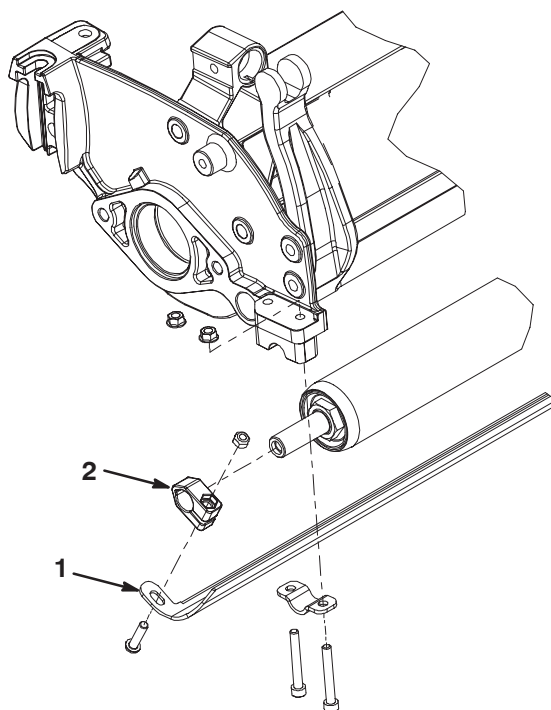

Figure 2
3. Loosely install the roller scraper to each end of the roller with a clamp block, capscrew and nut. Position the components as shown in figure 2.
4. Loosely install the roller to the cutting unit with the capscrews, clamps and nuts previously removed (Fig. 2).
5. Center the roller on the cutting unit and tighten the roller clamp capscrews and nuts (Fig. 2).